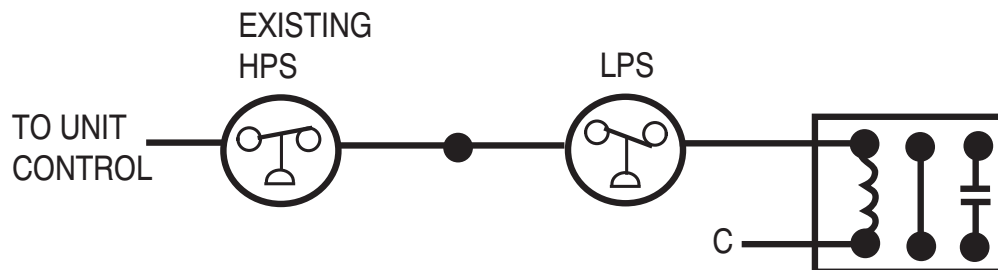

Fig. 2 - Low-Pressure Switch Wiring Diagram
1. Locate unit low-voltage coil terminals on contactor in unit control box (see Fig. 2).